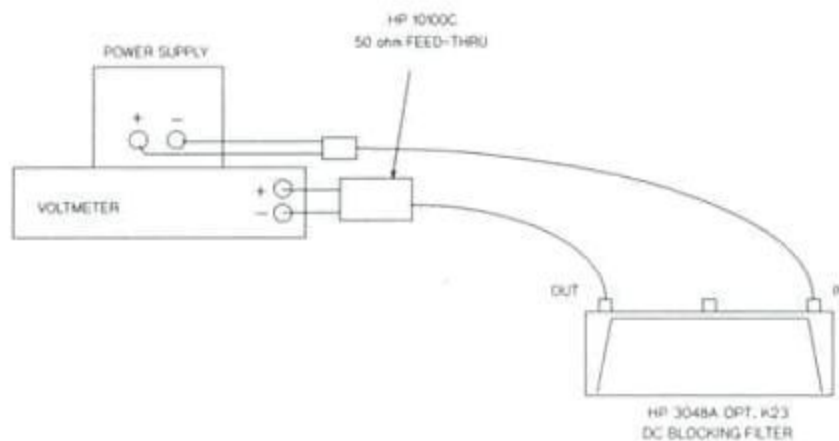

Figure 3-5
1. Connect the equipment as shown in figure 3-5.